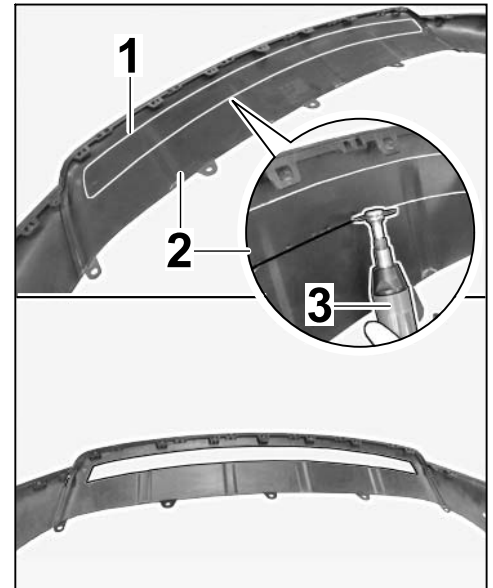

Figure 8
2.1.3 Make a cut-out in the front spoiler (⇒ *Figure 8*).
Highlight the embossing/markings using a pen (⇒ *Figure 8-top-*).